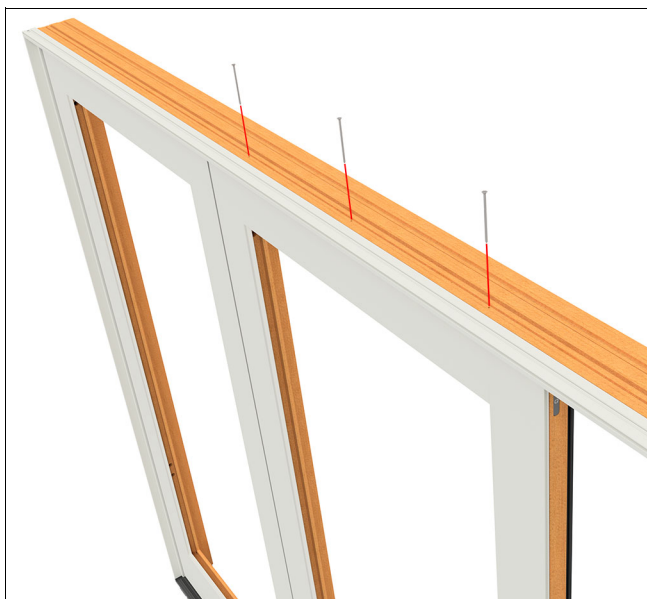

Figure 68
16. Fasten the center stationary panel with #8 x 3" screws at the head jamb. See Figure 68.